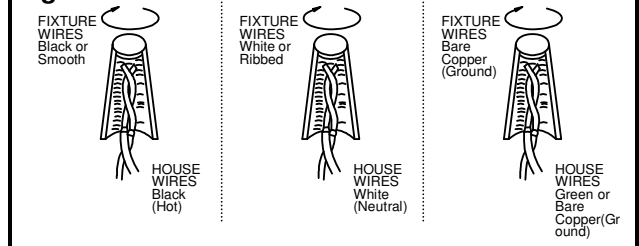

Fig. 3
6. Open the fixture door by lifting lock handle (G). Align the fixture back plate followed by reflector plate (H) to mounting screws (E) and secure with cap nuts (F).
7. To prevent moisture from entering the outlet box and causing a short, use clear caulking (i.e. Indoor/Outdoor Silicone Sealant) to outline the outside of fixture back plate where it meets the wall leaving a space at bottom to allow moisture a means to escape. (Fig. 3)